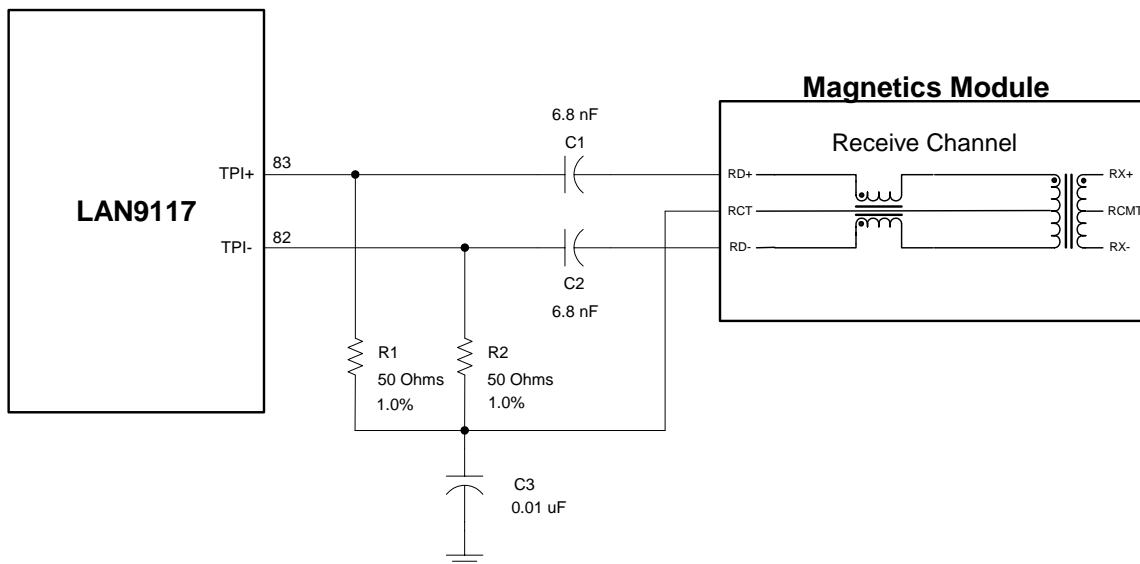

Figure 2 - Receive Channel Connections and Terminations
8. For Receive Channel connection and termination details, refer to Figure 2.